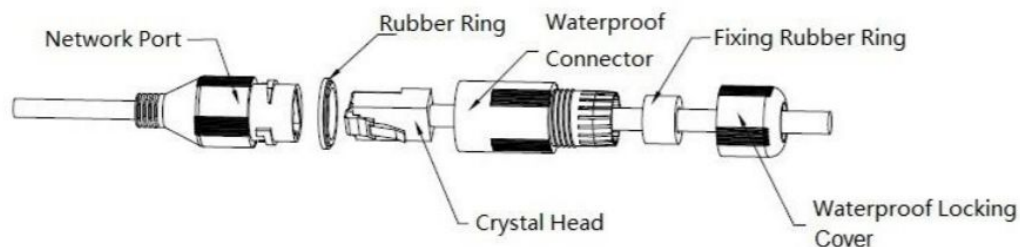

Figure 2-4
**Waterproof connector installation for network port (if applicable):** For a device with a plastic enclosure, you can directly rotate the dome enclosure clockwise, cover the dome enclosure and complete installation. See figure 2-4.